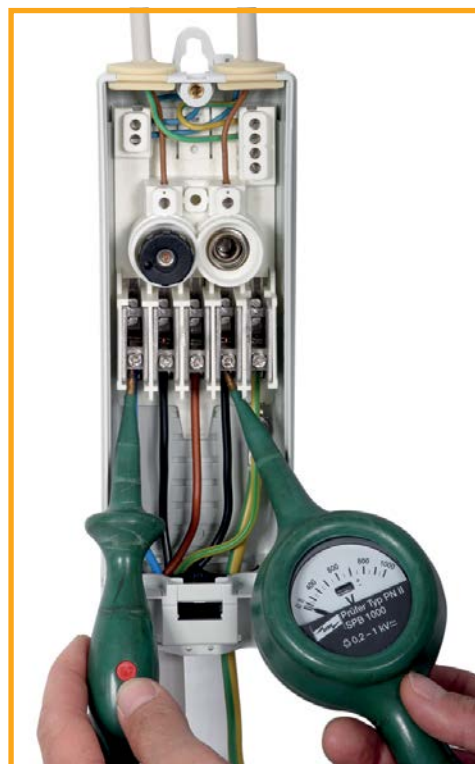

Fig. 3.2
3.2 Verify that <<< all of the poles >>> are dead (see Fig. 3.2)